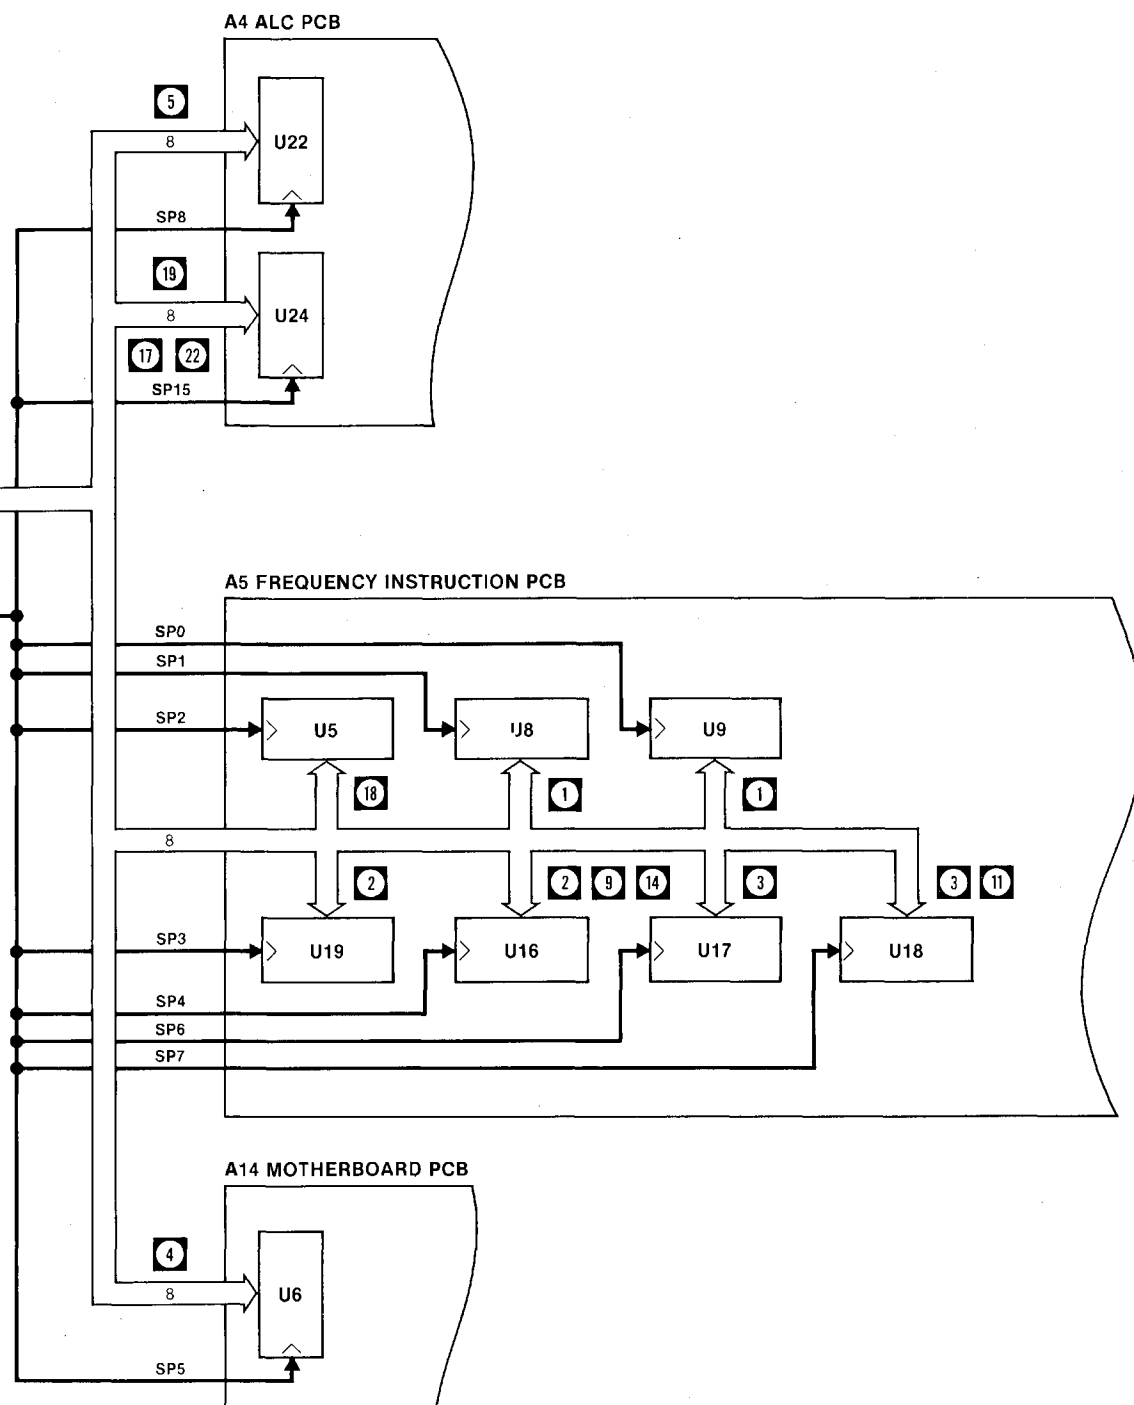
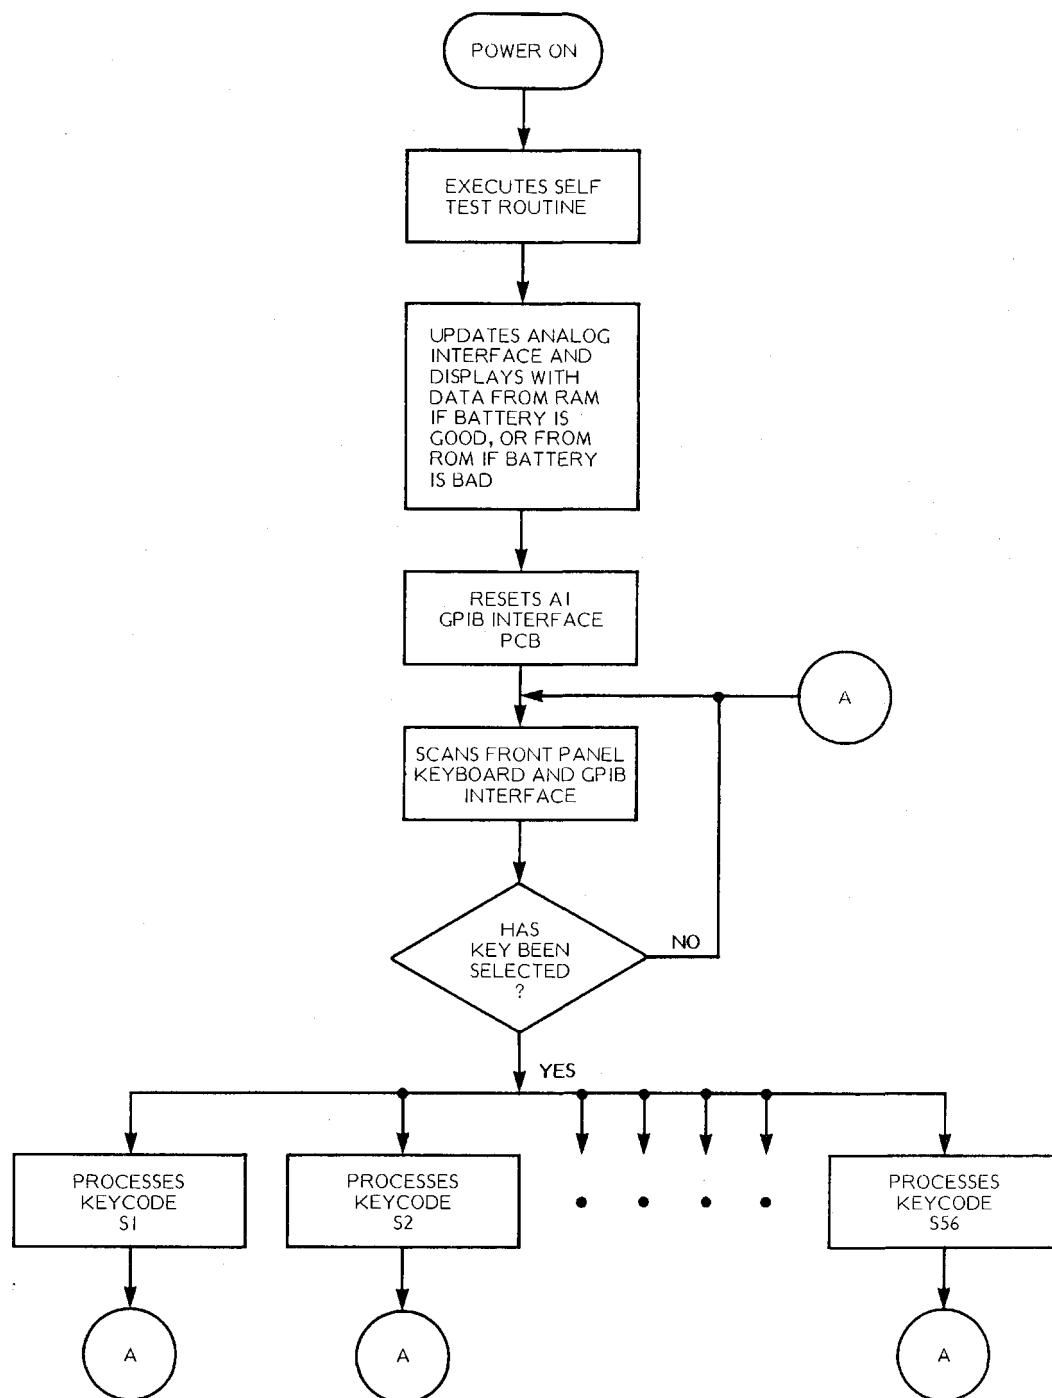
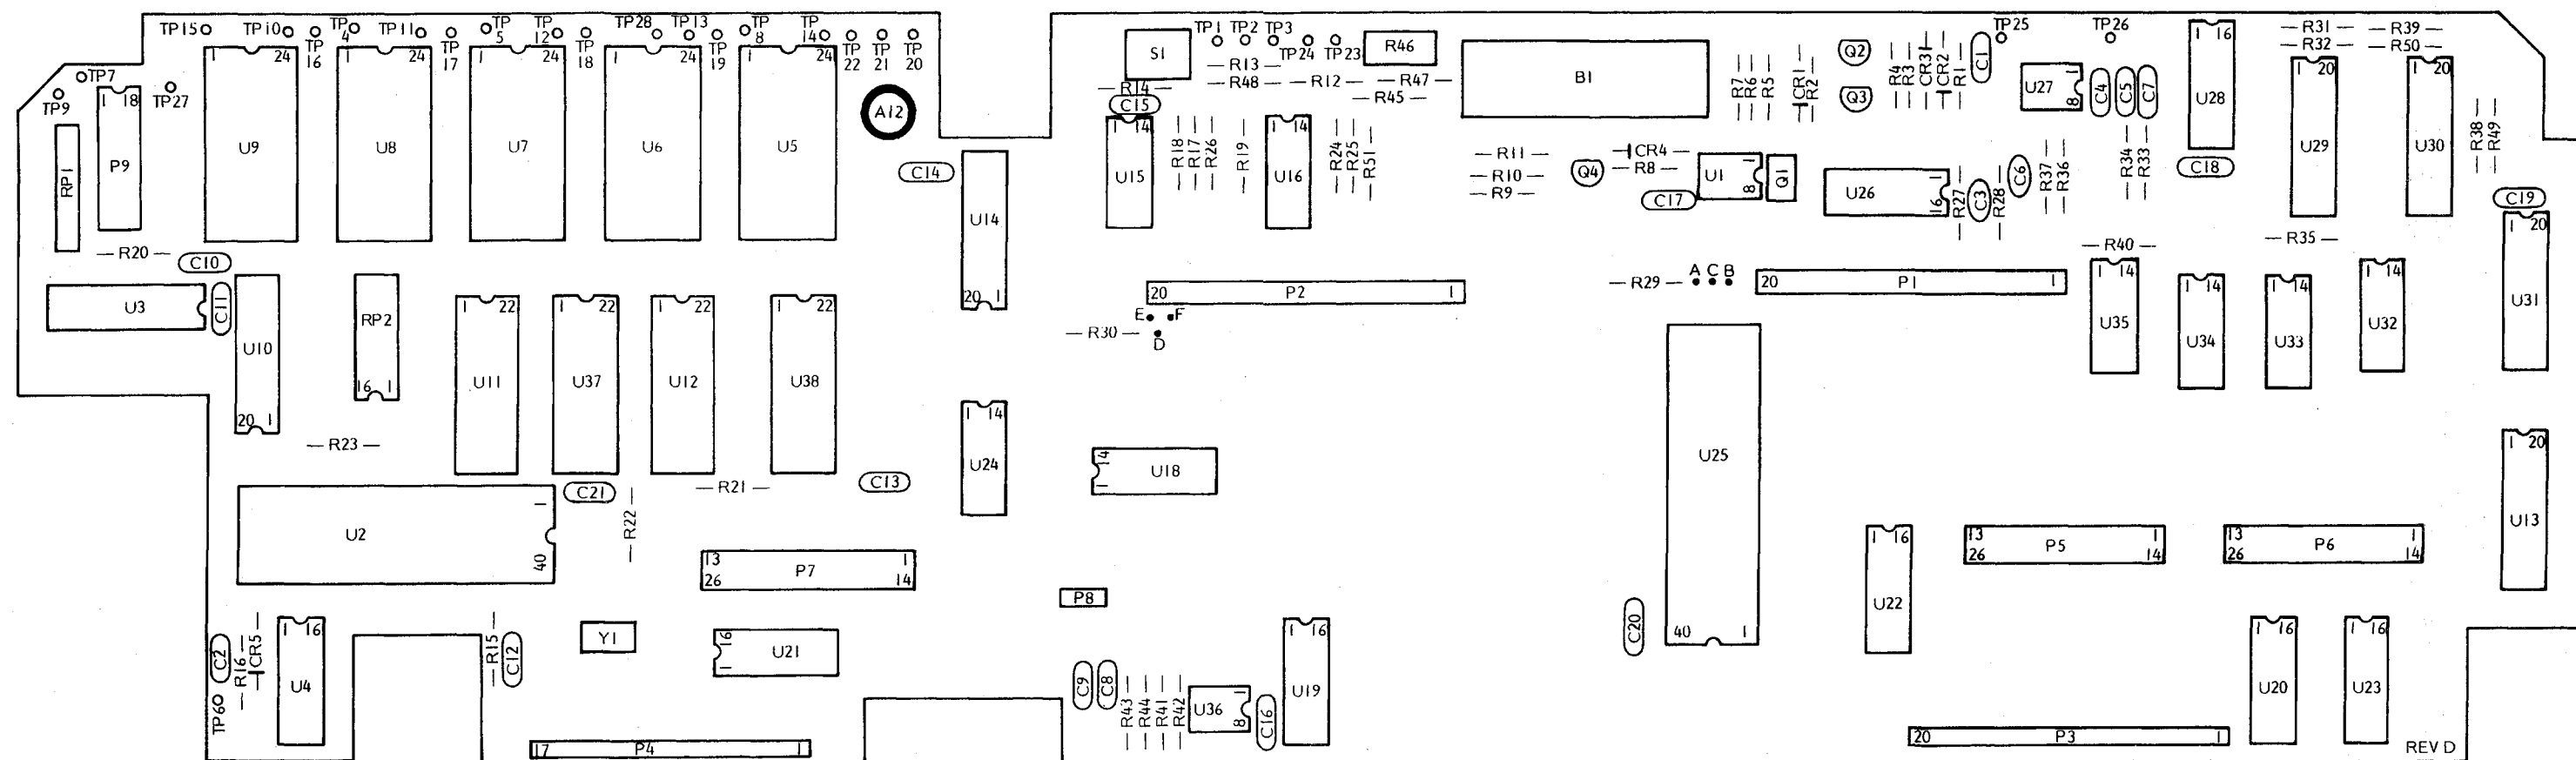

Figure 7-12. Distribution of Control-Group Data Between A12 and A2-A5 and A14 PCBs
Figure 7-13. A12 Microprocessor PCB
Figure 7-14. A12 Microprocessor PCB
The A12 Microprocessor PCB controls the operation of the sweep generator. It also provides, via the A11 Front Panel PCB, the interface between the front panel pushbuttons and the analog sweep- and microwave-generating circuitry. To provide this control, the A12 PCB contains an 8085 Microprocessor integrated circuit (IC), an 8279 Keyboard/Display Interface IC, 10k bytes of read-only memory (ROM), and 512 bytes of read/write memory (RAM). A block diagram of the A12 PCB circuitry is provided in Figure 7-11. A diagram showing the distribution of control-group data between the A12 PCB and the A2-A5 and A14 PCBs is provided in Figure 7-12; descriptions of these data are provided in Appendix III. A flowchart showing the microprocessor's ac power-on operational program is provided in Figure 7-13. A parts locator diagram for the A12 PCB is provided in Figure 7-14. And the A12 PCB schematics (5 sheets) are provided in Figure 7-15.
- d. 2716 ROM (U5-U9). The ROM circuits contain both the microprocessor ac power-on operational program (Figure 7-13) and the reset (default) parameter data (paragraph 3-7.1).
U19-U21 decode the microprocessor output-port data and select one of 24 output ports. The selected port then receives the data that the microprocessor has concurrently sent over the data bus. The output-port-select lines are **SP0** thru **SP23**. The **SP0-SP15** lines go to the analog PCB ports, located on the individual A2-A5 and A14 PCBs (Figure 7-12). **SP16-SP21** go to the front-panel non-flashing LED ports, A11U1 thru A11U6. The **SP22** line goes to the front-panel flashing LED port, A12U31. And the **SP23** line goes to the GPIB Interface PCB μ P-data input port, A1U22 (Option 3 only).